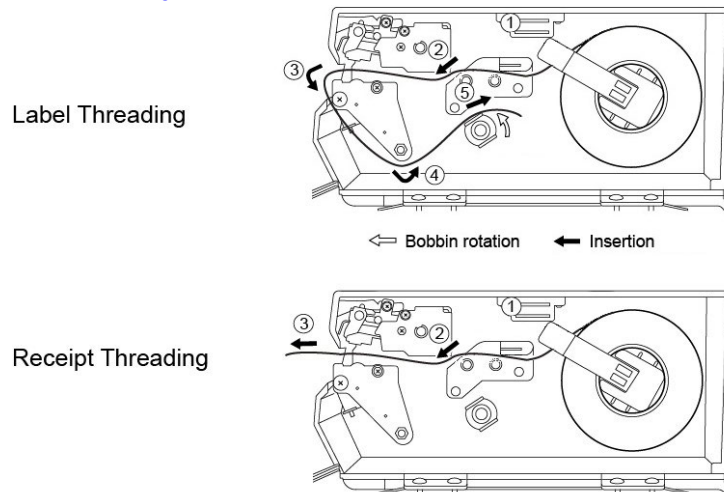

Figure 9-5. Thread Paper
- Thread the paper as shown in Figure 9-5